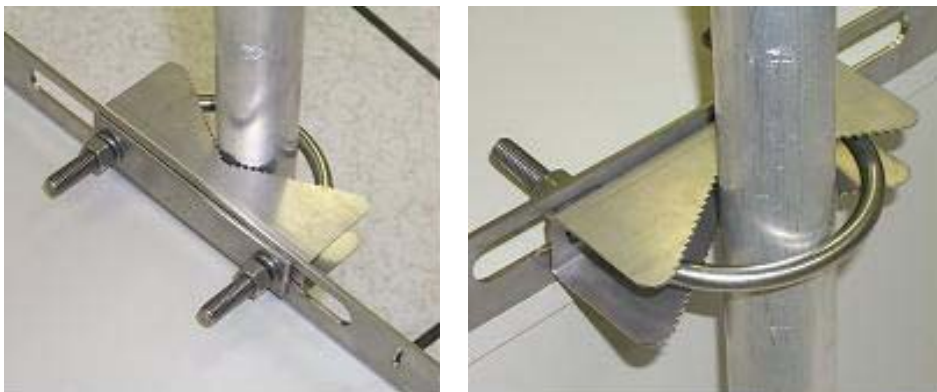

Figure 122: Detail of pole mounting
- a. attach the V-bracket to the pole as shown in Figure 122.
- d. attach the V-bracket to the pole as shown in Figure 122 on Page 340.